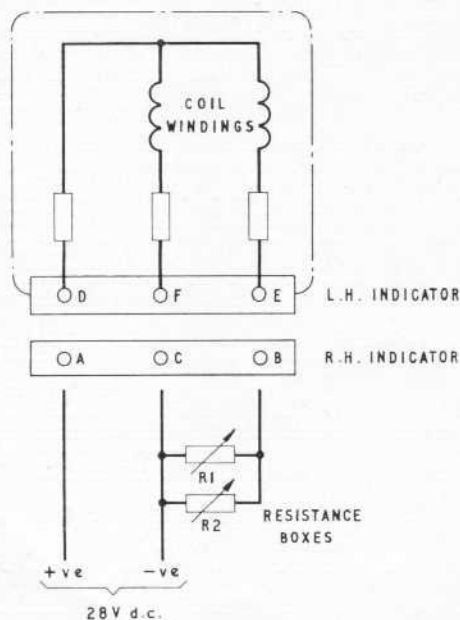

Fig. 2. Circuit and test circuit diagram
3. The combined circuit and test circuit diagram is shown in fig. 2. Connection to the indicator is made by means of a 6 pole Mk. 4 plug, at the rear of the indicator.